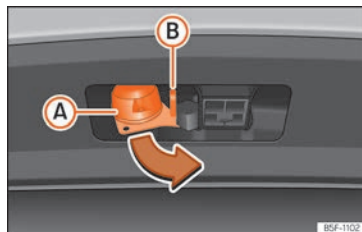

Fig. 184 Turning the 13-pin connector
- Grip the connector in area (A) and remove it in the direction of the arrow » Fig. 184.
- Open the cover of connector (A) and connect the trailer » Fig. 184.
- Hook the trailer's pair cable to the safety lug » Fig. 184 (B). When hooked up, the pair cable should have some **slack** in all vehicle towing positions (sharp curves, reverse, etc.).